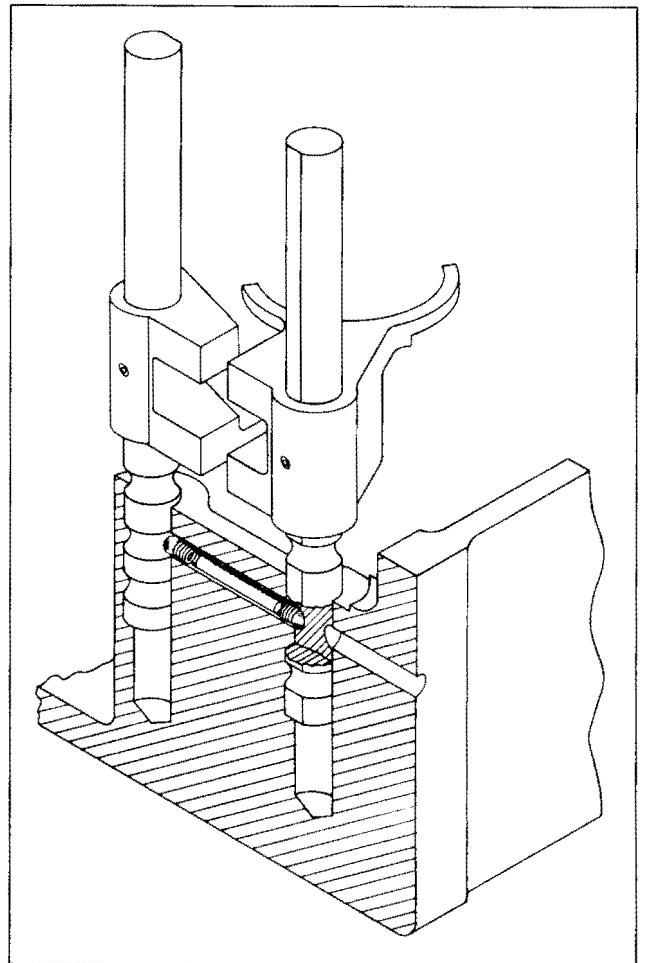

FIGURE 15
3. Install one stop ball, spring and stop pin. Refer to detent drawing and Figure 15.
4. Install the 2nd stop ball and using a punch push the ball in against the spring. Move the 2nd & high shift rail into the neutral position and continue to push on the punch until the ball is flush with the shift rail bore. At the same time insert the low and reverse shift rail and fork assembly, removing the punch, as the shift rail passes the ball. See Detent Drawing. Figure 15 and 16.
- 3B. Install one stop ball, spring and stop pin. See drawing Figure 15.
- 4B. Install the 2nd stop ball and using a punch push the ball in against the spring. Move the 2nd & high shift rail into the neutral position and continue to push on the punch until the ball is flush with the shift rail bore. At the same time insert the low and reverse shift rail and fork assembly together with the low and reverse sliding gear, removing the punch as the shift rail passes the ball. (See detent drawing Figure 15.) Note: The low and reverse gear fits down over the input shaft with the shift fork groove down. See Figure 21.